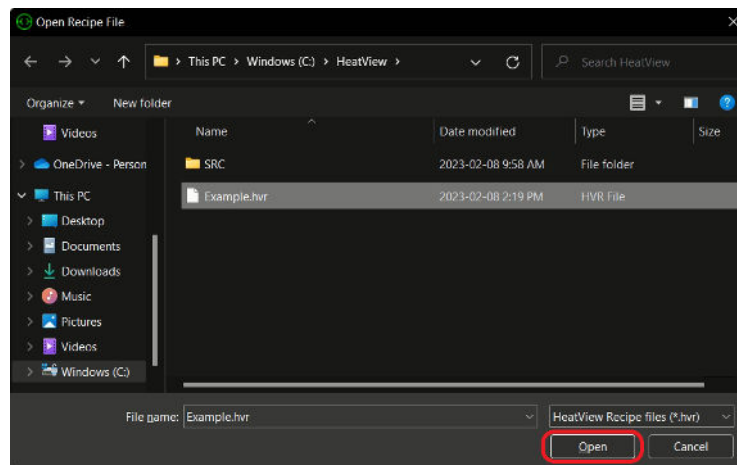

Figure 88: Recipe Editor – Recipe file location
2. In the 'File Explorer' window that opened, navigate to the folder where you have stored your recipe files. As a reminder, recipes will always be in the ".HVR" format. Select the recipe file you wish to load into the 'Recipe Editor' and click the 'Open' button – highlighted in Figure 88 below – to complete this process.